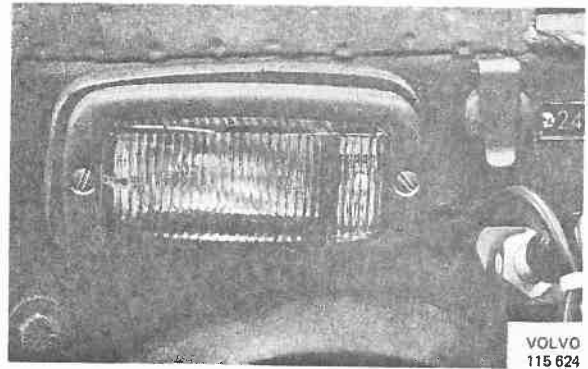

Fig. 35-7. Removing the lens and rim
1. Remove the screws holding the lens, Fig. 35-7.